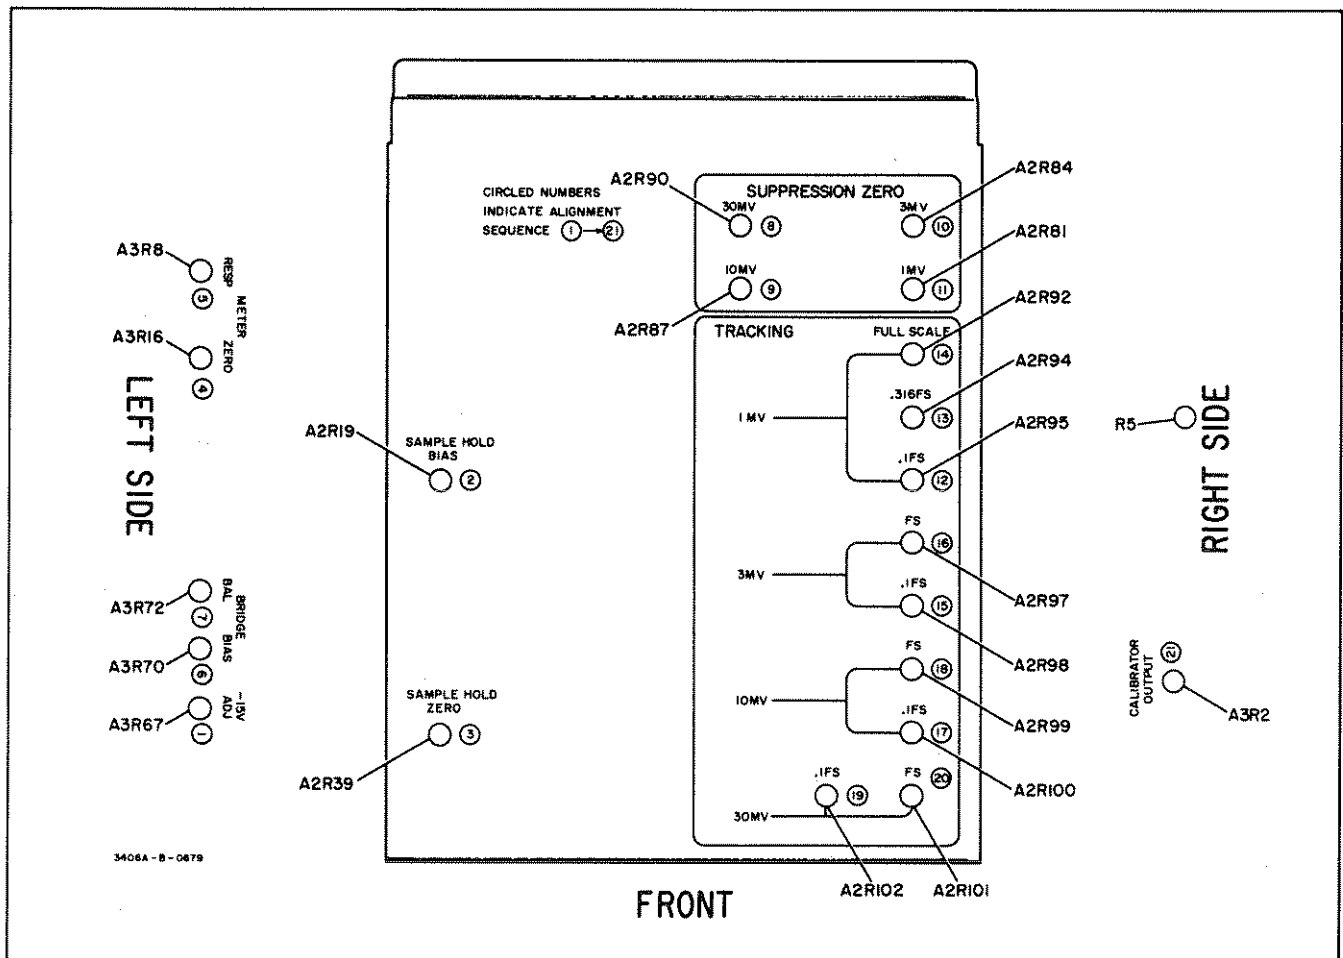

Figure 5-6. Adjust Point Location
All adjustments are available through the top shield or side gussets as illustrated in Figure 5-6. The circled numbers indicate the alignment sequence ①-②①. Figure 5-6 also gives the reference designator for each adjustment.